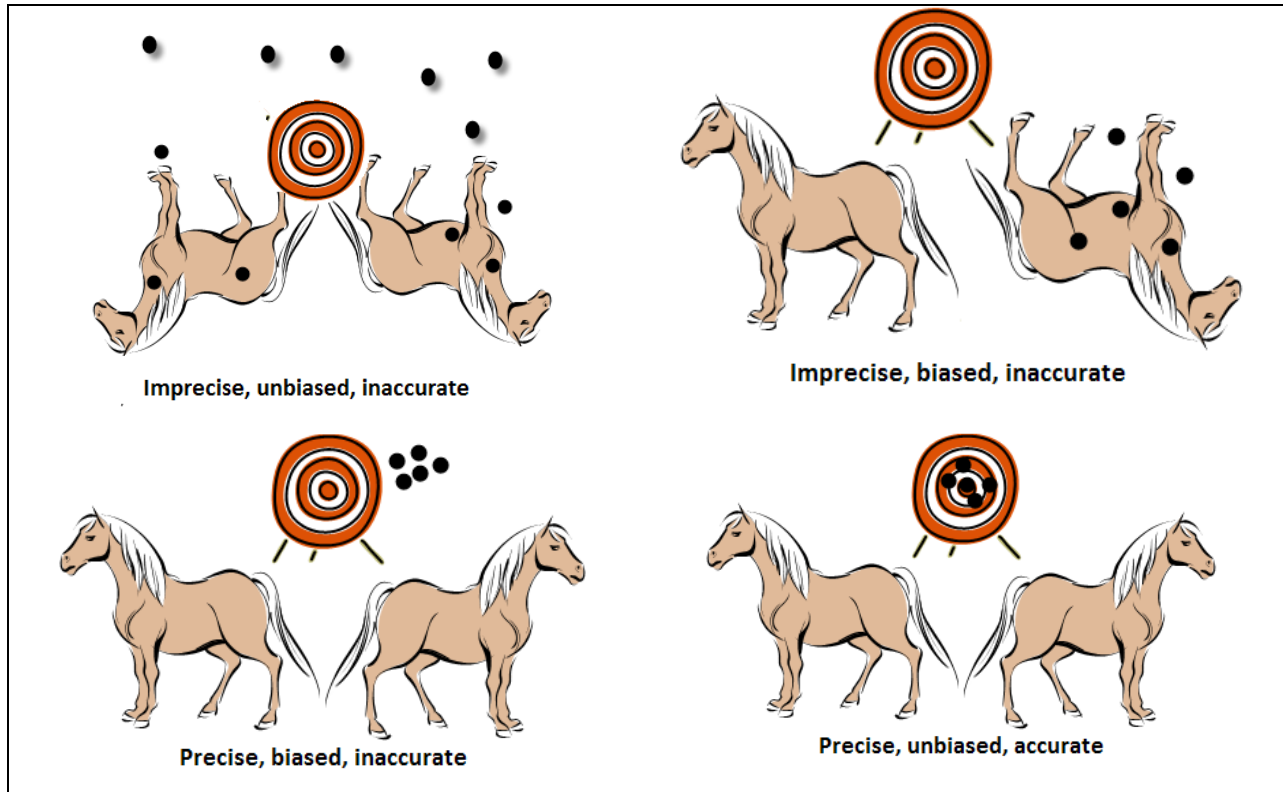

Figure 2. Illustration of Precision, Accuracy, and Bias
The magnitude of the Deviation (D) is the measure of the reproducibility or precision of the measurements. There is a great deal of confusion about the use of terms **precision**, **accuracy**, and **bias** in physical measurements. For the measurement to be accurate, it must be both precise and unbiased. See Figure 2 for an illustration of the relationship between precise, accurate and bias.